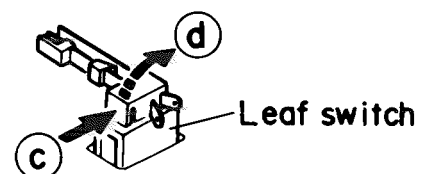

Fig.2-12
#### ■ Leaf switch (Fig.2-12)
1. Press the leaf switch in the direction of the arrow (c) and then remove it in the direction of the arrow (d) referring to Fig.2-12.